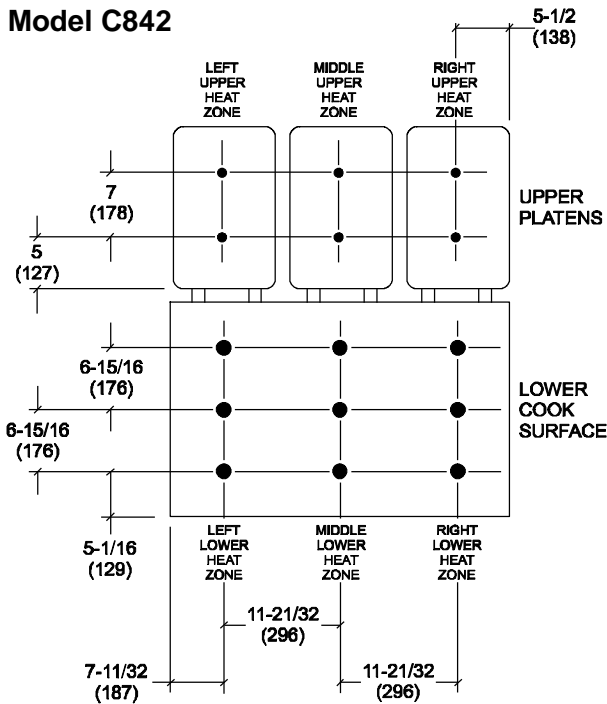

Figure 36
See Figures 36 and 37 below to identify the probe locations.
3. Place a pyrometer surface probe on the selected heat zone as shown in Figures 36 and 37.